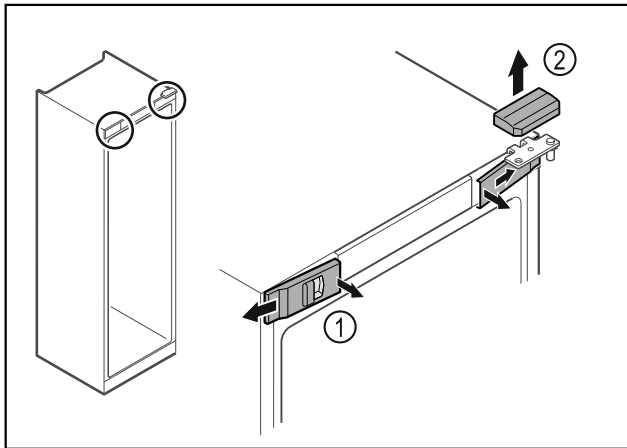

Fig. 14
- Unlatch the front covers Fig. 14 (1) on the inside and remove them sideways.
- Lift off the upper cover Fig. 14 (2).